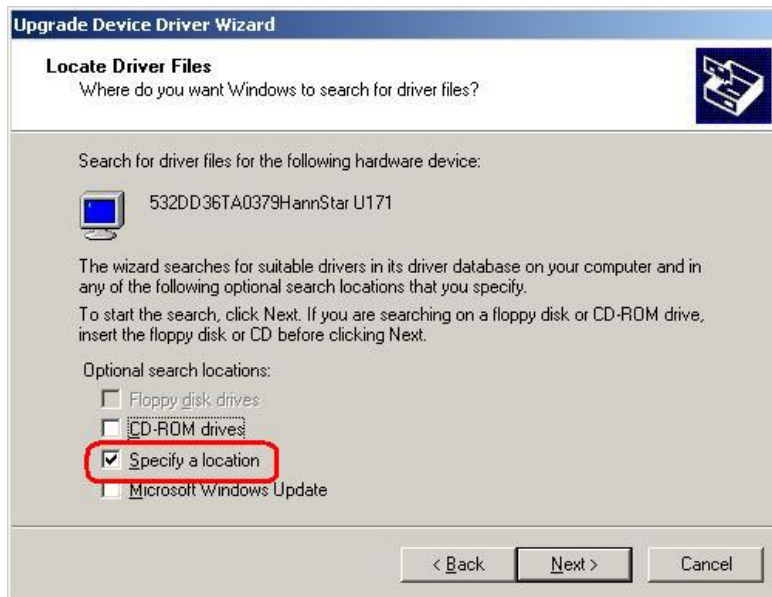

Figure 6-17: Locate Driver Files
Step 7: Select “Specify a Location” in the **Locate Driver Files** window (Figure 6-17).
- Step 7:** Select “Specify a Location” in the **Locate Driver Files** window (Figure 6-17).